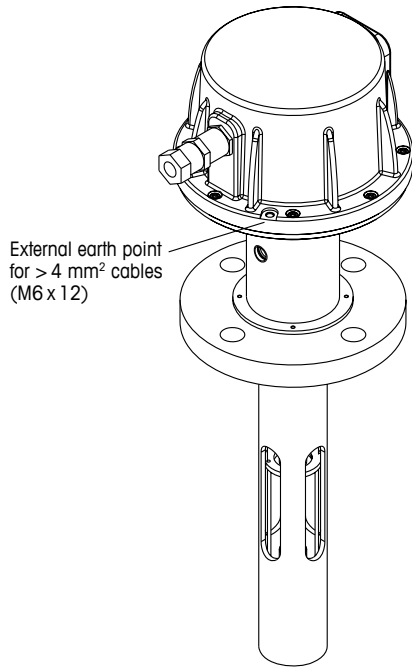

Figure 32 External earth point. Standard probe (SP) process adaptor shown.
- The GPro 500 must be connected to an external protective earthing system via one of the screws for the lid to the sensor head (see Figure 32 on page no 70).